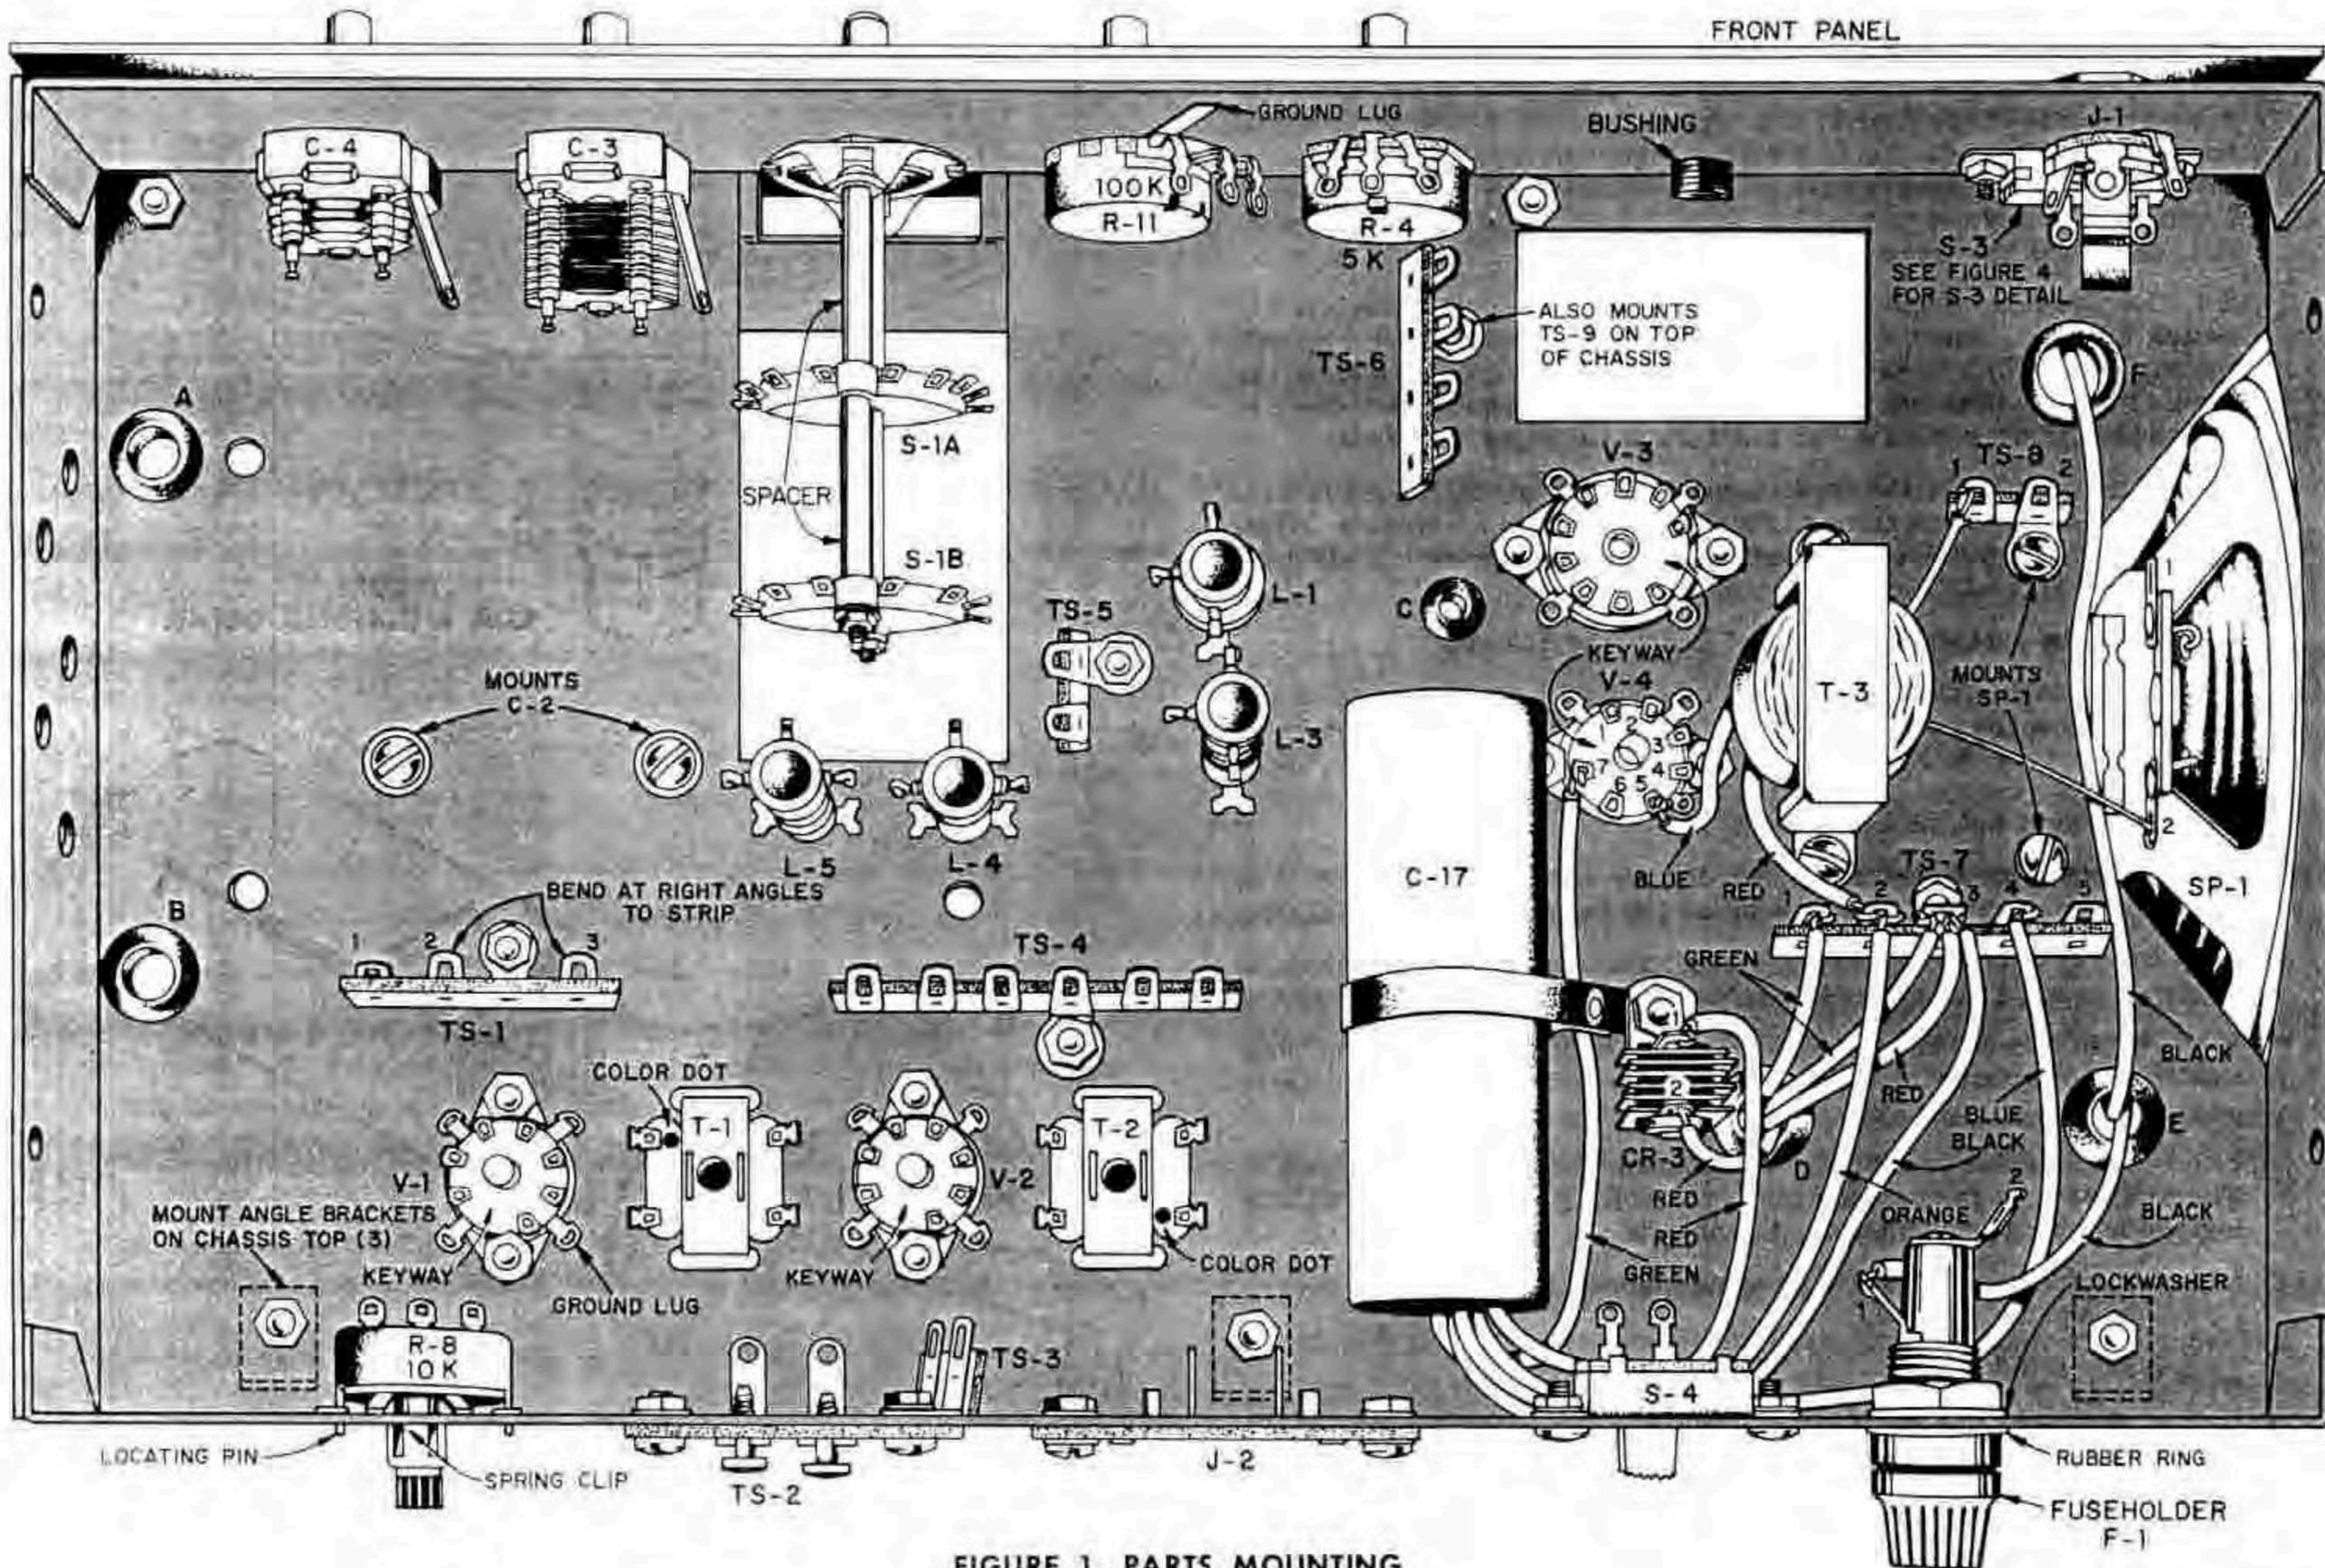

FIGURE 1. PARTS MOUNTING
REFER BACK TO FIGURE 1.
- ✓ R-11, 100K control, a $\frac{3}{8}$ " lockwasher and large ground lug. Bend the tab on the side of the control flat against the face of the control. Slip the ground lug, then the lockwasher, over the shaft of R-11. Now mount R11 and fasten with a $\frac{3}{8}$ " nut turned to finger tightness. Position R-11 and the ground lug so they are turned slightly towards R-4, as shown in Figure 1.